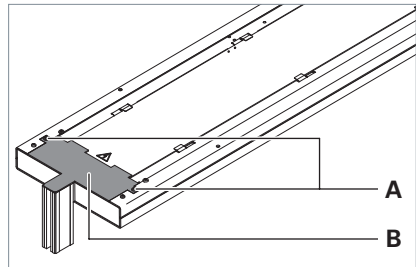

Fig. 14: Removing the cover
- ▶ Unscrew the screw **A** from the cover **B**, see Fig. 14.